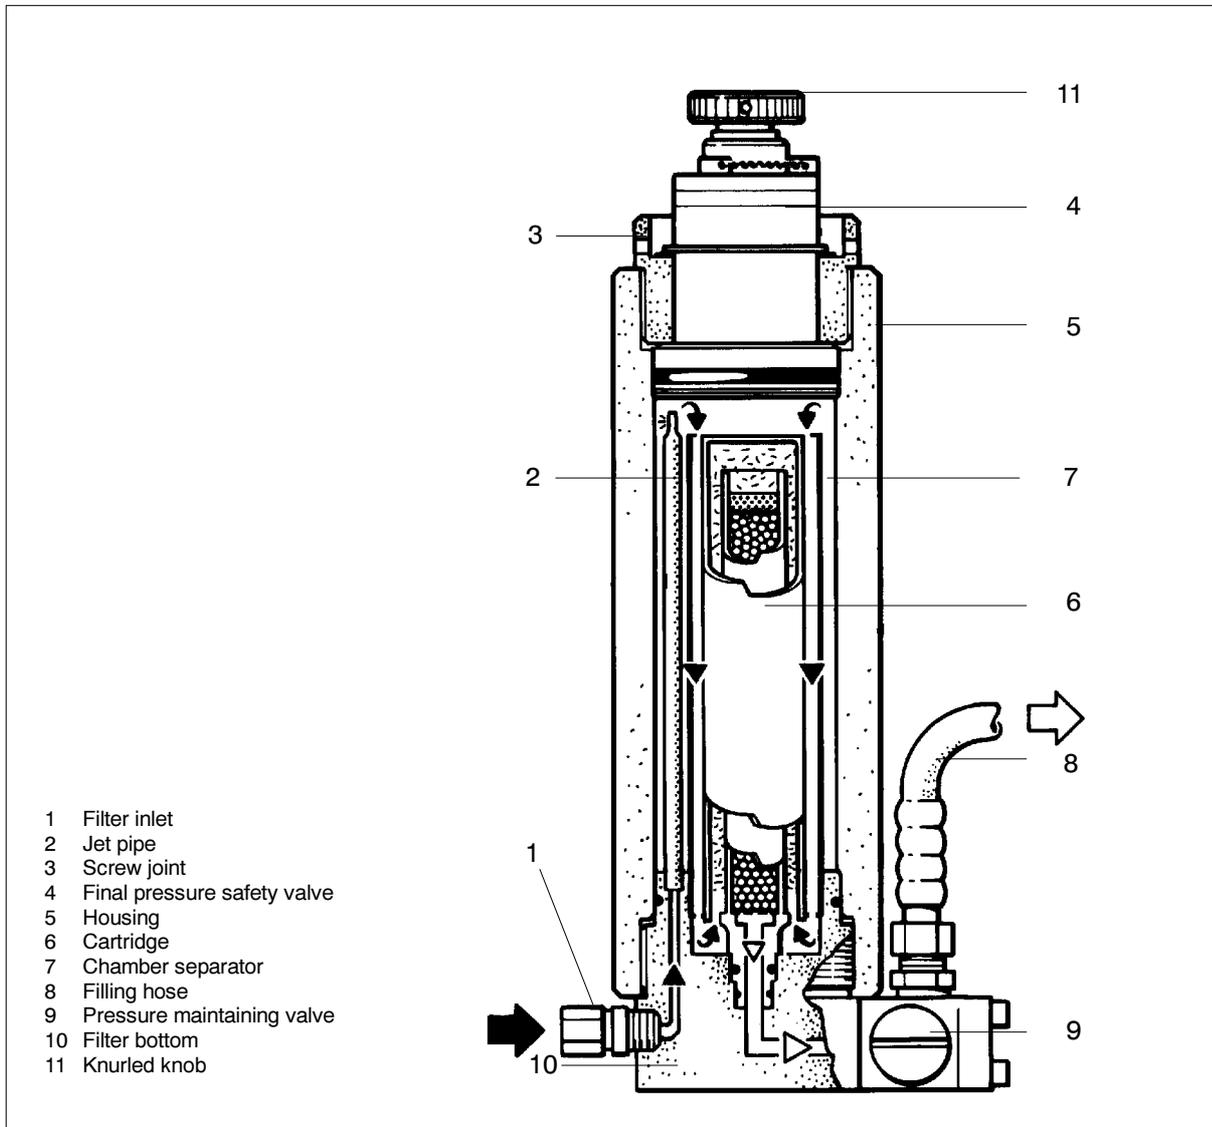

Fig. 13 Filter system P21
Air leaving final stage is cooled in the after-cooler to approx. 10 - 15 °C (18 - 27 °F) above ambient temperature and then enters filter system **P21** with **TRIPLEX** longlife cartridge (Fig. 13). The filter assembly consists of separator and cartridge chamber. In the separator surrounding the cartridge chamber liquid oil and water particles are reliably separated from the compressed medium by a pipe nozzle.
- Unscrew knurled nut (3, Fig. 13) on top of the filter.